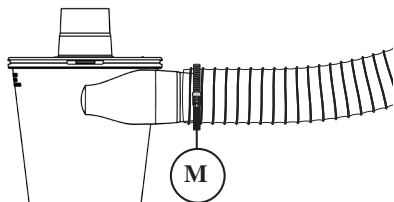
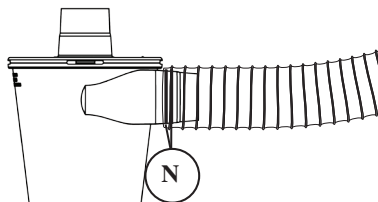

FIG. 14b
FIG. 14c
Note: If your vacuum hose is not tight on the inlet or it keeps pulling off, use the Clamp Band (M) and/or the two O-Rings (N) [FIG. 14b] [FIG. 14c].